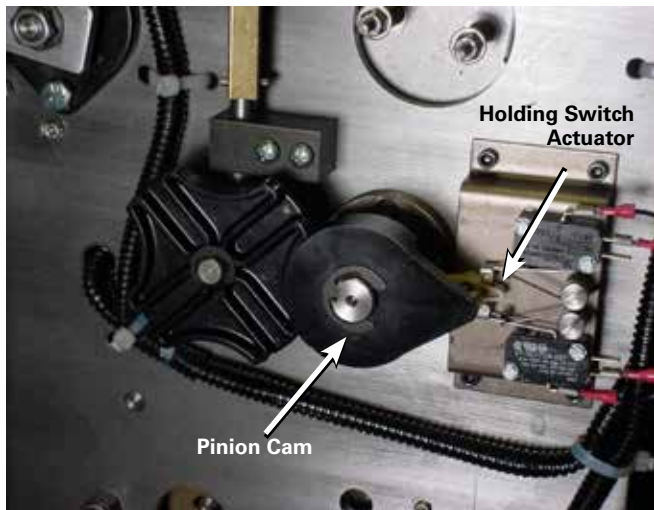

Figure 24. Neutral position for position indicator pinion cam and holding switch.
C. The pinion cam is pointing to the right over the holding switch actuator. See Figure 24.